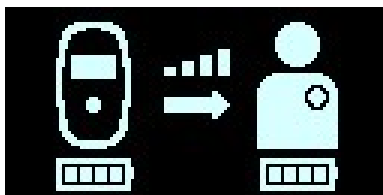

Figure 83: Charging IPG Status Screen
5. After the data download has been completed, the Charging IPG Status screen is displayed by the Vesta Charger. **See Figure 83.**
7. The Charging IPG Status screen (see **Figure 83**) will continue to be displayed as the OPTIMIZER Smart Mini IPG is being charged.